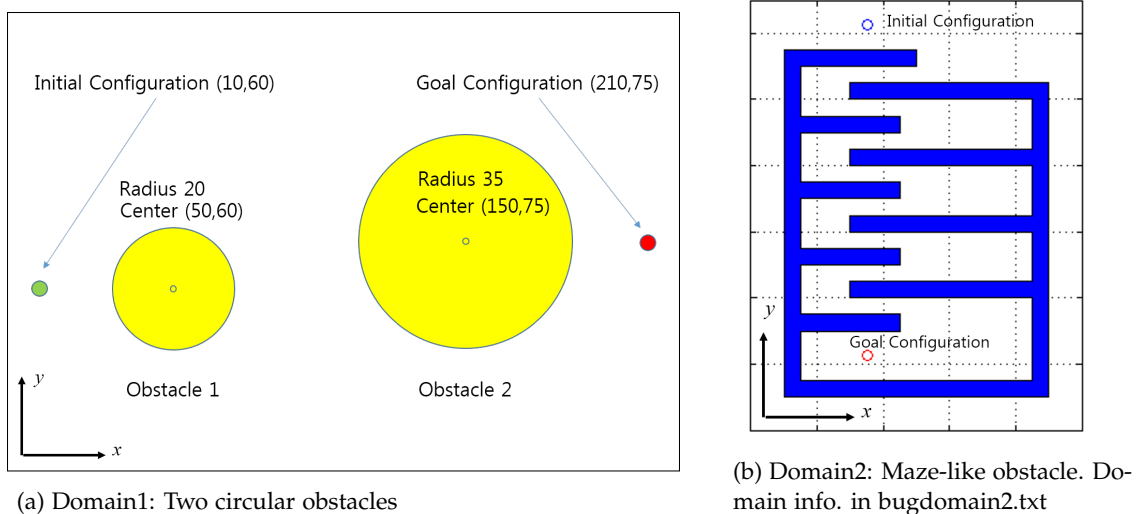

Figure 1: Navigation domains
- a) **Bug 1 algorithm:** Implement the Bug 1 algorithm for domain1 and 2 in Figure 1. Provide videos of the simulations(upload the movies to your repository and include the snapshots in your summary report). For each domain, compute the ratio
- b) **Bug 2 algorithm:** Implement the Bug 2 algorithm for domain1 and 2 in Figure 1. Provide videos of the simulations(upload the movies to your repository and include the snapshots in your summary report). For each domain, compute the ratio
- a) **Potential field navigator:** Implement a simple potential field navigator with attractive and repulsive fields for domain1 in Figure 1. Note that unlike the problem 1, your navigator has access to a global map and it will use the map to construct its potential field. Provide a video of the simulation(upload the movie to your repository and include the snapshots in your summary report). Compute the ratio